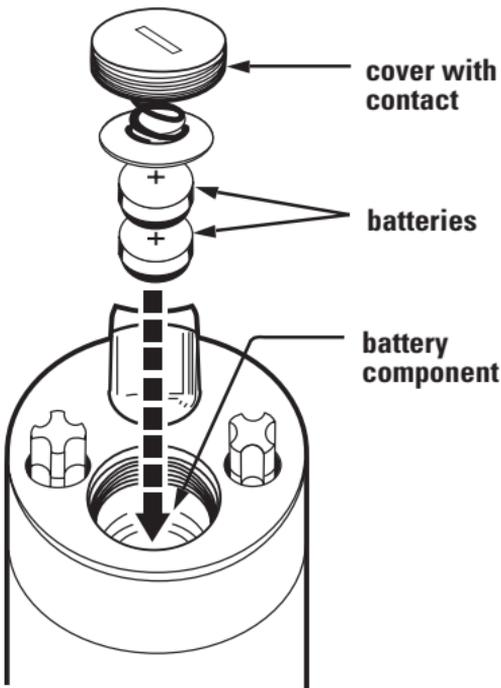

Figure 1 – Battery Installation
4. Drop the batteries into the battery compartment with the negative ends down. See **Figure 1**.